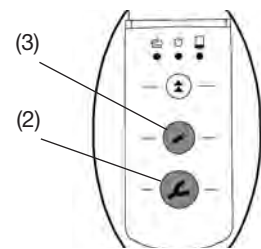

fig. 8
- If the operator presses one of the feed keys (impression tray (2, fig. 8) or dispenser (3, fig. 8)) without selecting a mixing program, the “ST” program will be activated automatically. The LED next to the “ST” key goes on.
- Press and hold down the advance key (2) or (3) (depending on the desired speed or function):
- Impression tray (2), normal extrusion speed with activated mixing program